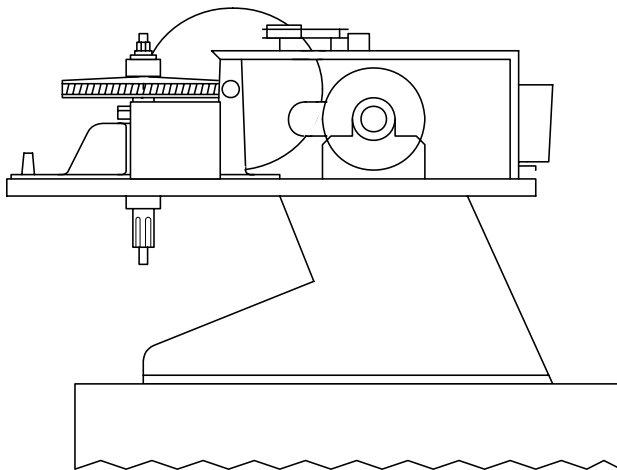

Figure 10
1. Place the operator on the mounting plate so that the four (4) mounting holes are in alignment and the output shaft extends in front of the mount plate base (Figure 10).